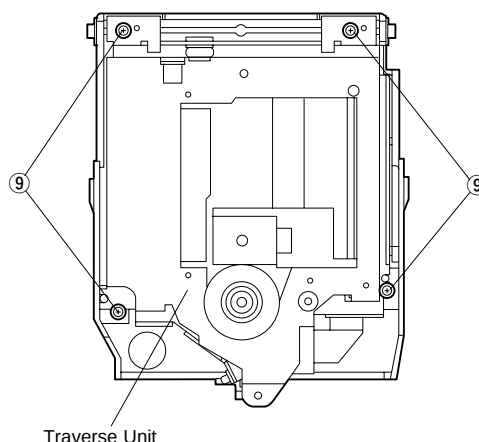

Fig. 5
- b. Remove 4 screws (⑨) and then remove the Traverse Unit as shown Fig. 5.